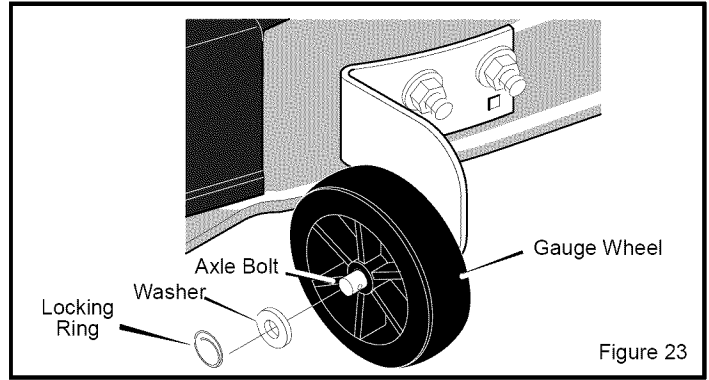

Figure 23
1. Remove the **gauge wheels** (Figure 23).